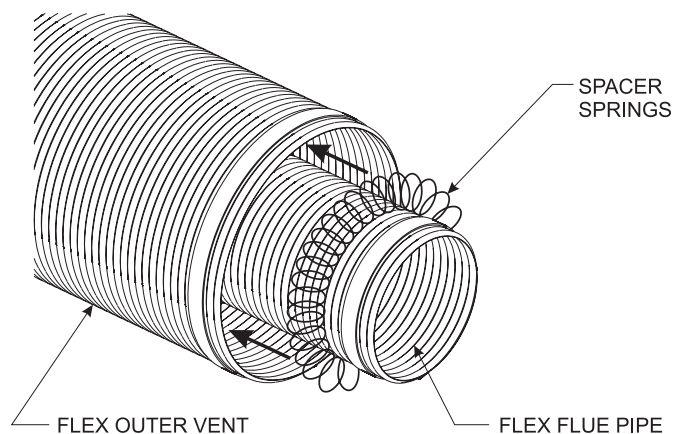

Figure 54
2. Check to see that the vent spacer springs are located around the flue vent at 8" intervals along its length. **See Figures 54 & 55.** If not, stretch the spacer springs to about 15" long and wrap them around the flue, then interlock the ends of each spring. Maintain equal distance between spring spacers.